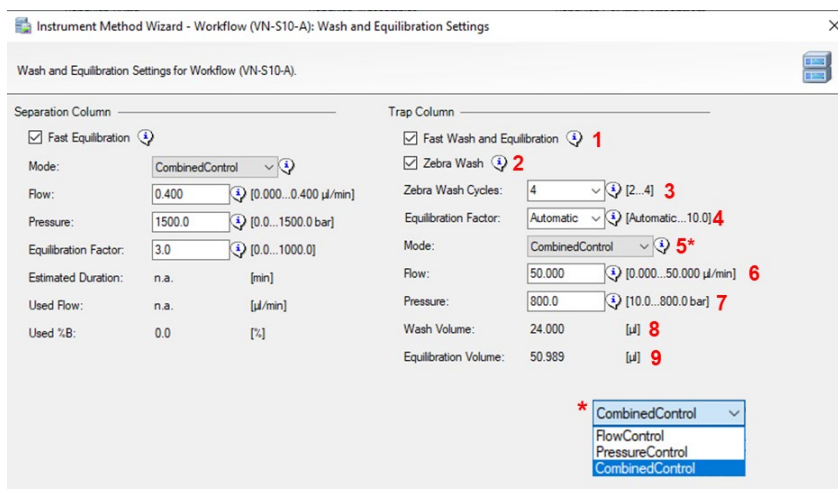

Figure 38: Page 6 - Workflow: Wash and Equilibration Settings (2)
Table 10:Key to Figure 38 Wash and Equilibration Settings (2)